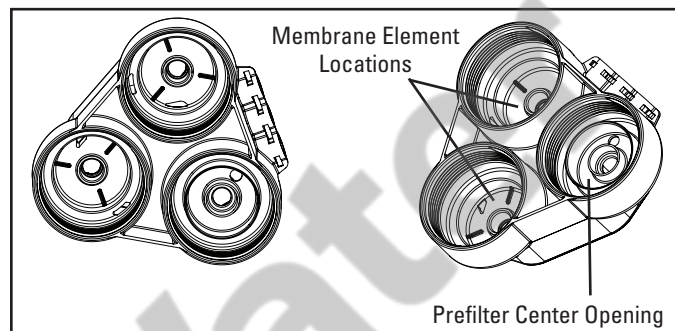

Figure 14
- b. Pour a tablespoon (15 milliliters) of chlorine bleach into the center opening of the prefilter sump connection. See Figure 14.